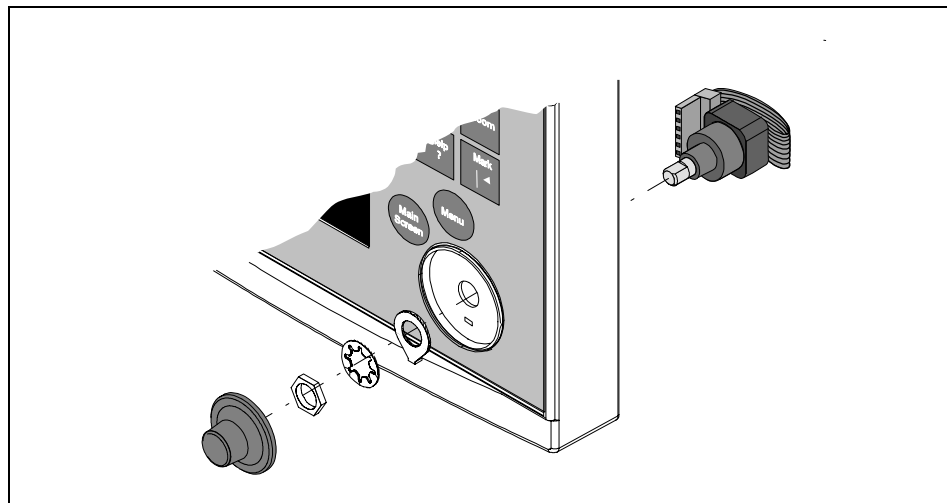

Fig. 3-12 Optical Encoder Subassembly Installation
- 3) Unplug the optical encoder ribbon cable ⑩ from the PC Board. Unscrew the securing nut on the front bezel to remove the rotary switch subassembly (see Fig. 3-12).
- 5) Secure the subassembly to the bezel as illustrated in Fig. 3-12.